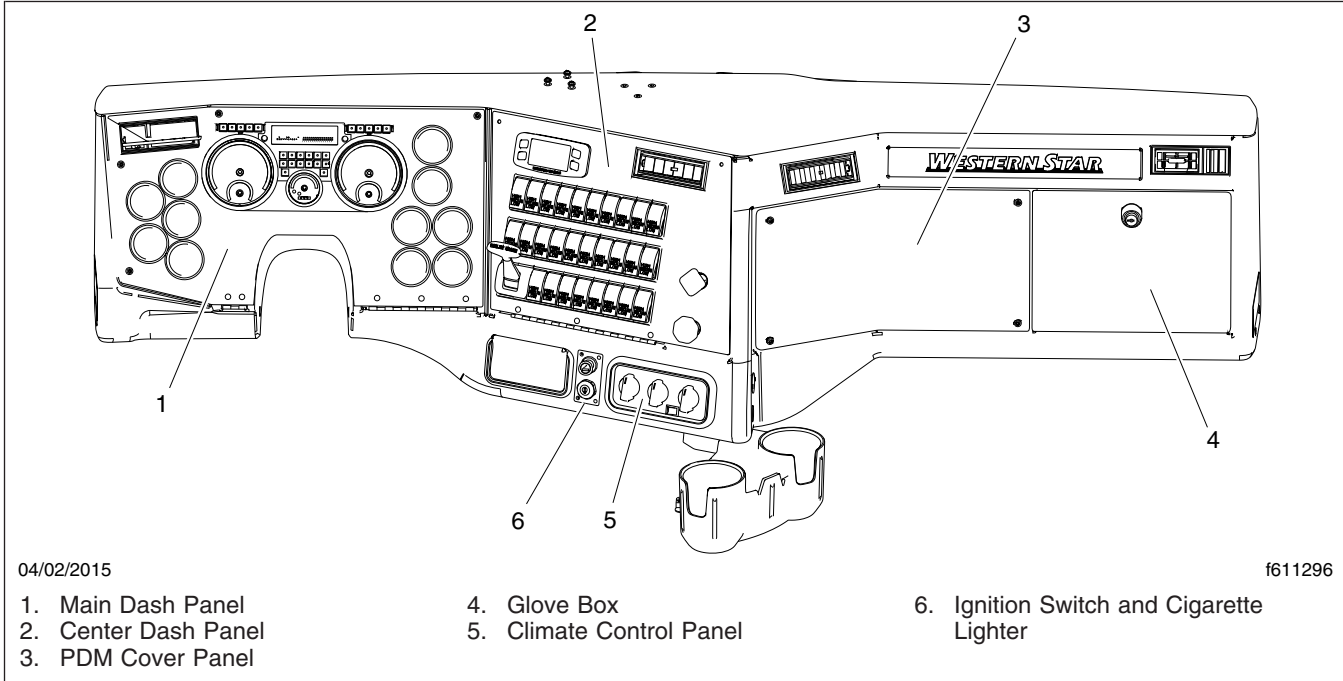

Fig. 5, Dash
6. Locate the ignition (IGN) splice pack behind the center dash panel. The wires in this splice pack are marked 81C. See Fig. 5.